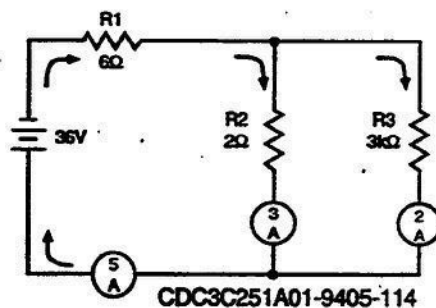

Figure 2-46. Normal series-parallel DC circuit.
**Series-parallel circuit troubleshooting.** Series-parallel troubleshooting is an application of concepts learned in the troubleshooting of either a series or a parallel circuit. When these concepts are used in a systematic approach, it is easy to isolate faulty components. We break series-parallel troubleshooting down into two parts. What happens with an open or shorted resistor in the (a) series portion of a circuit; (b) in the parallel portion of the circuit? Use figures 2-46, 2-47, and 2-48 with the discussion on faults in the *series* portion of a circuit.
Use figures 2-46, 2-49, and 2-50 with the discussion on the faults in the *parallel* portion of a circuit.